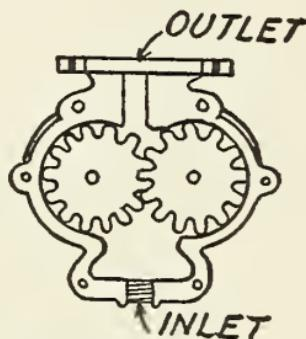

FIG. 54.—A gear oil pump.
It works on the same principle as a water wheel with buckets on its rim, the oil being carried up by the teeth of the gears which run outward from the oil inlet as shown in Fig. 54.
Positive, or Force Feed Pumps.—There are two kinds of these pumps in general use and these are (1) the *gear*, or *tooth wheel pump*, and (2) the *rotary pump*. The first is made exactly like the oil pump shown in Fig. 54.